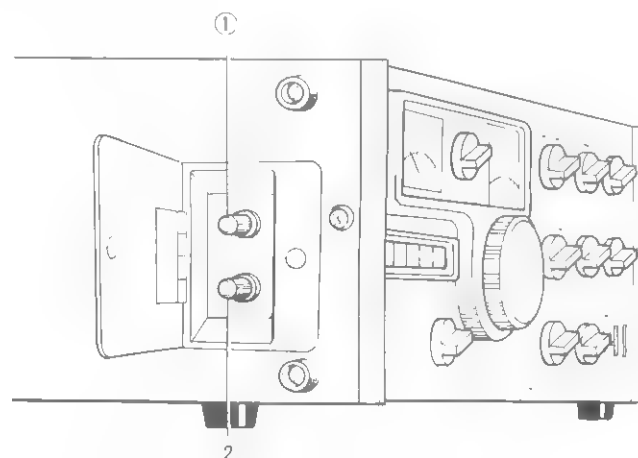

FIGURE 6. TS-900 Side Panel Controls
3.2 SIDE PANEL CONTROLS (See Figure 6)
MIC GAIN CONTROL (1 on Figure 6)
VOX GAIN CONTROL (2 on Figure 6)